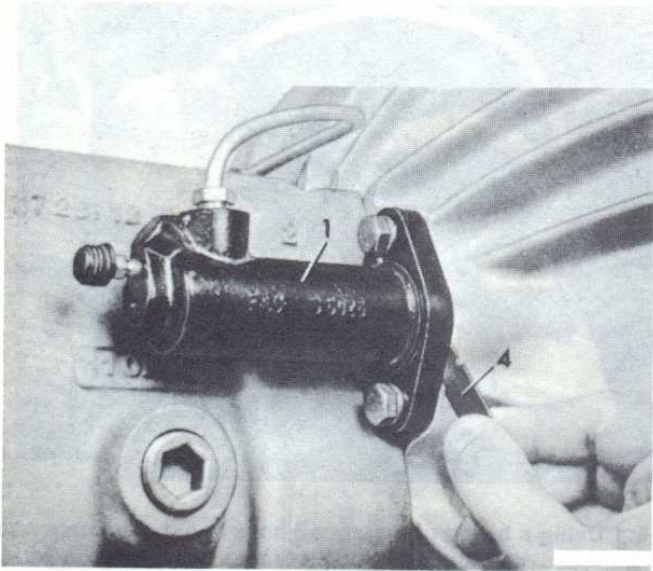

Fig. 5.5 Using the special gauge to check the friction disc linings (Sec 7)
- 1 It is possible to check the wear of the friction disc linings before removing the clutch. Fig. 5.5 shows the special gauge obtainable from the manufacturers in use. If the notches on the gauge enter the slave cylinder spacer, the linings are still serviceable, however, if the notches remain visible, the friction disc is worn excessively and should be renewed. If the gauge is not available, use a knife or thin file to mark the slave cylinder pushrod then remove the cylinder and check where it is marked – if it is on the high section of the pushrod, the linings are worn excessively.